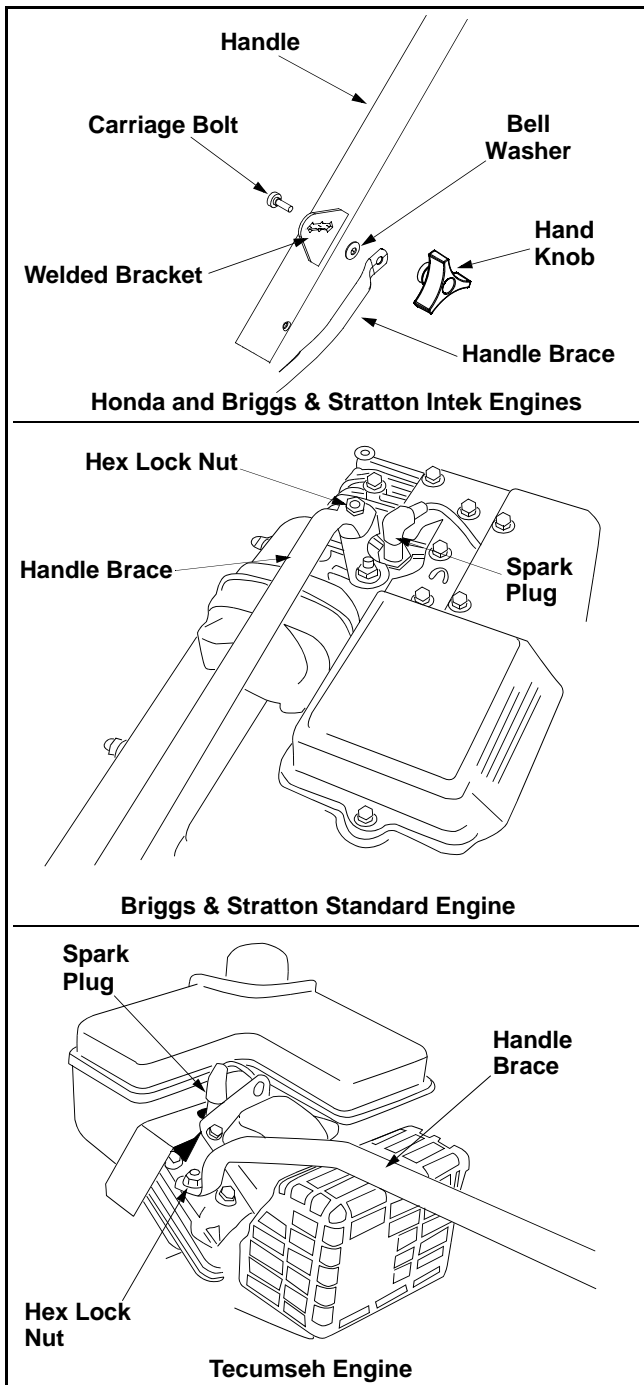

Figure 3
- Insert the carriage bolt through the welded bracket on the handle, bell washer, handle brace, and into the hand knob. Tighten securely. See Figure 3. **(Honda and Briggs & Stratton Intek Engines).**
- Remove the hex lock nut from on top of the engine, just to the left of the spark plug. Attach the curved end of the handle brace to the top of the engine, using hex lock nut just removed. Tighten securely. See Figure 3. **(Standard Briggs & Stratton & Tecumseh Engines).**